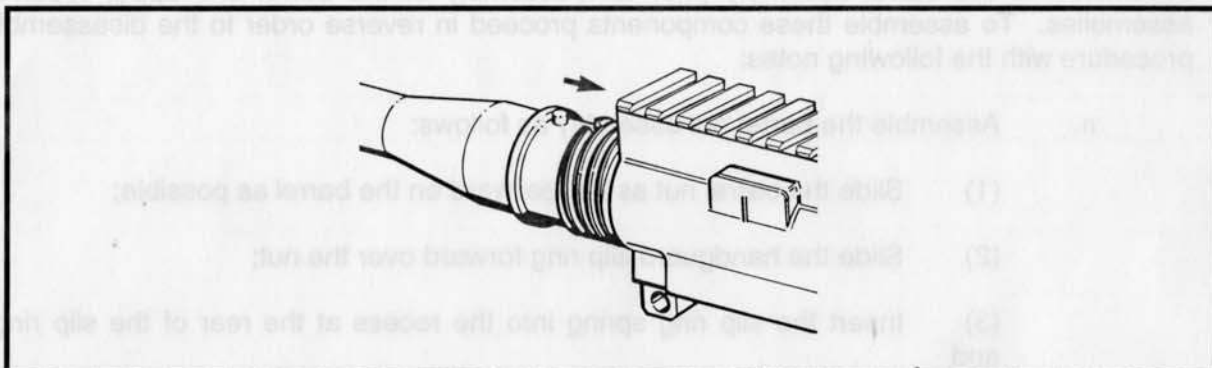

Figure 3-2-20 Installing the Barrel Assembly
- a. Clamp the barrel in a vice equipped with vice jaw caps to ensure an adequate grip without damage to the barrel, ensuring that the barrel indexing pin faces upward. See Figure 3-2-20;